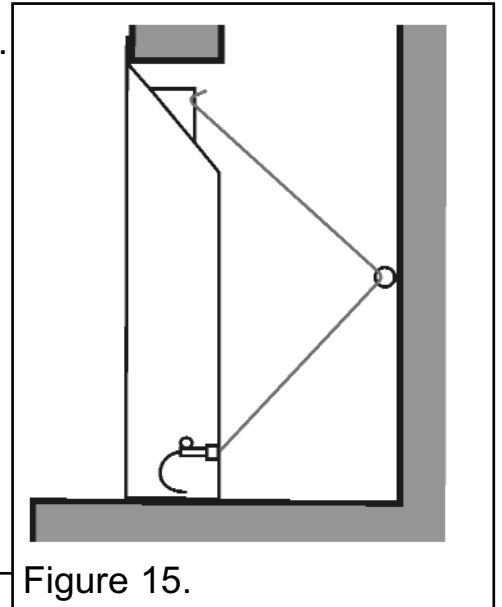

Figure 15.
6. Thread the cables through the eyebolts in the rear wall. Return the cables through the holes near the bottom corners of the convection box back panel (See figure 15).